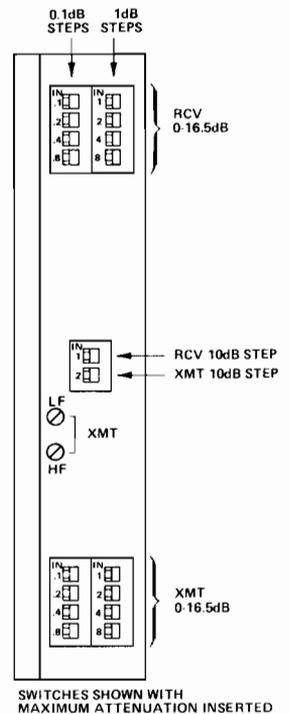

figure 2. 6945 front-panel controls
2.05 Adjustable attenuators in the transmit and receive paths provide for interfacing the -16 transmit and +7 receive facility-side TLP's with conventional terminal-side levels. From 0 to 26.5dB of loss may be introduced in 0.1dB increments via front-panel DIP switches (see figure 2). Total attenuation in either channel is the sum of that channel's switches set to the /N position.